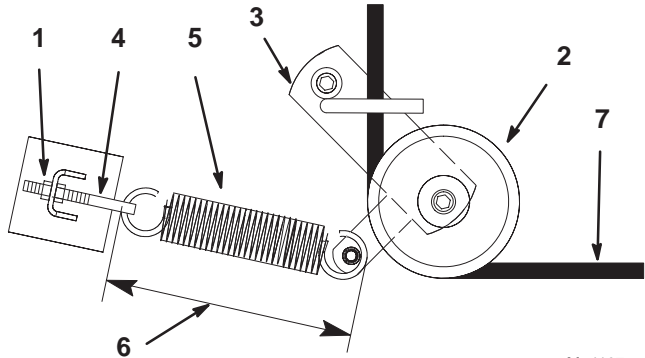

Figure 53
3. Loosen the outer nut on the spring eye bolt (Fig. 53).
5. Remove spring loaded idler pulley (Fig. 53).
6. Route the new belt through the idler arm (Fig. 53).
8. Tighten the outer nut on the spring eye bolt (Fig. 53).
Note: Check the spring length. The spring should measure 9-3/8 ± 1/8 in. (238 ± 3 mm) when installed. Adjust it if it does not (Fig. 53).